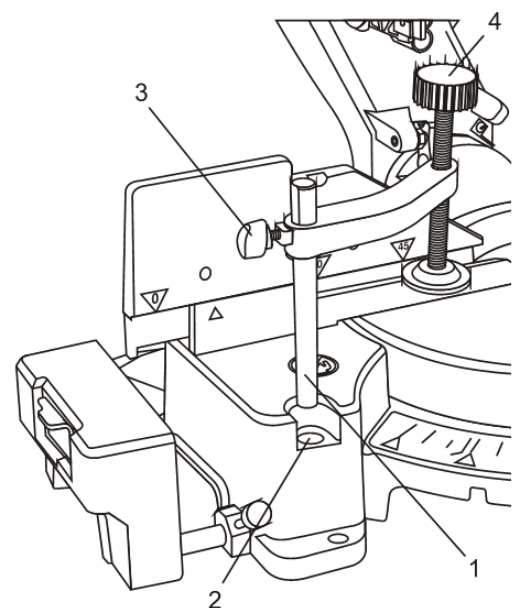

Fig. 5
1. Insert the hold-down clamp rod (1) into the clamp rod hole (2) located in the front left corner of the base (Fig. 5).